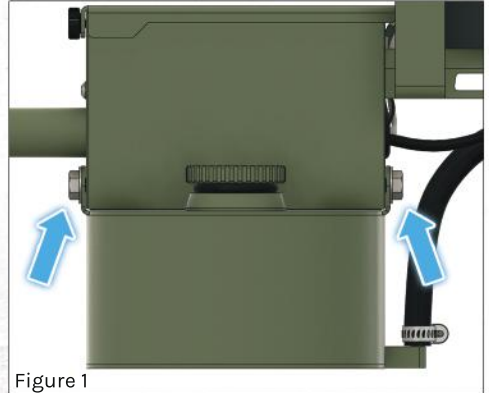

Figure 1
- 1 Once your standard fuel tank is empty, use a 13 mm wrench to remove the two screws holding the fuel tank to the body (Figure 1).